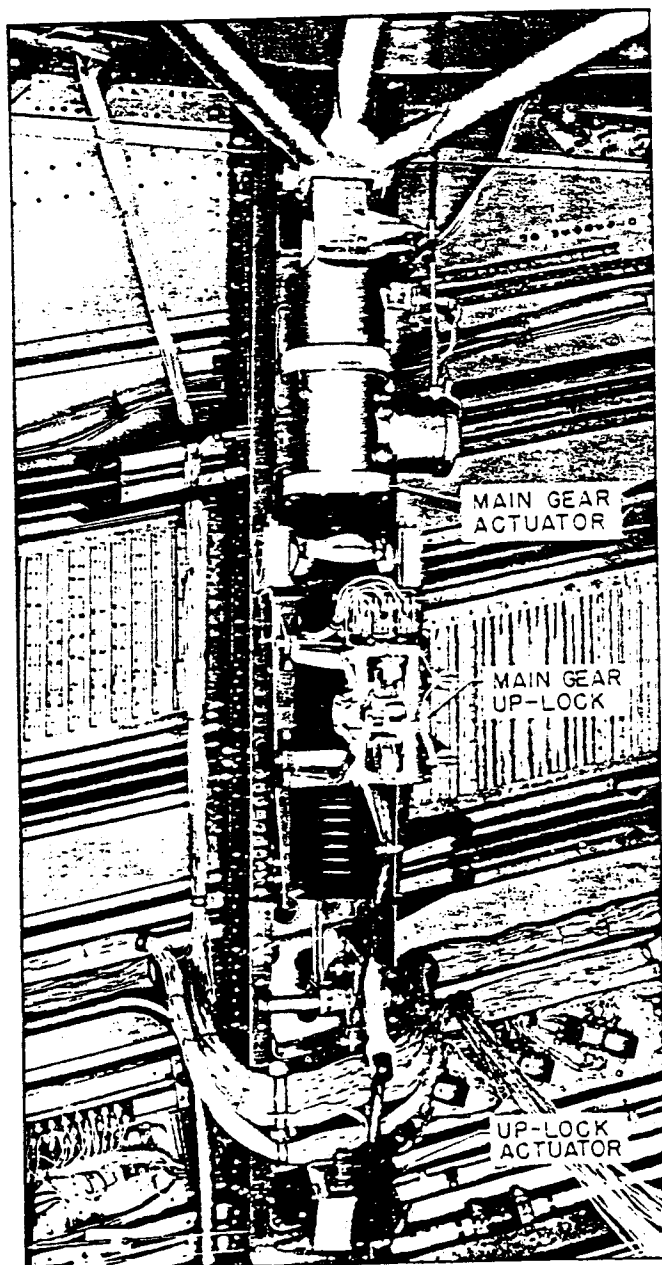

Figure 7. Main Landing Gear Up-Lock and Main Gear Actuator
(3) MAIN-LANDING-GEAR UP-LOCK. (See figure 7.)
(4) MAIN-GEAR UP-LOCK ACTUATOR. (See figure 7.)
(a) ACTUATOR. (See figure 7.)